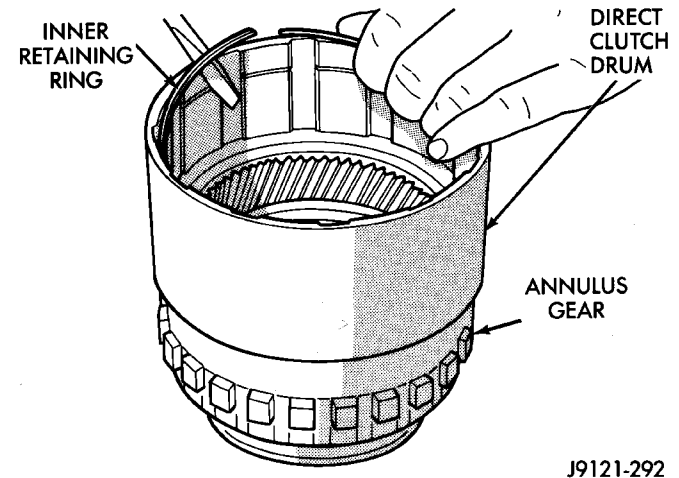

Fig. 216 Clutch Drum Inner Retaining Ring Removal
(7) Remove direct clutch drum rear retaining ring (Fig. 216).